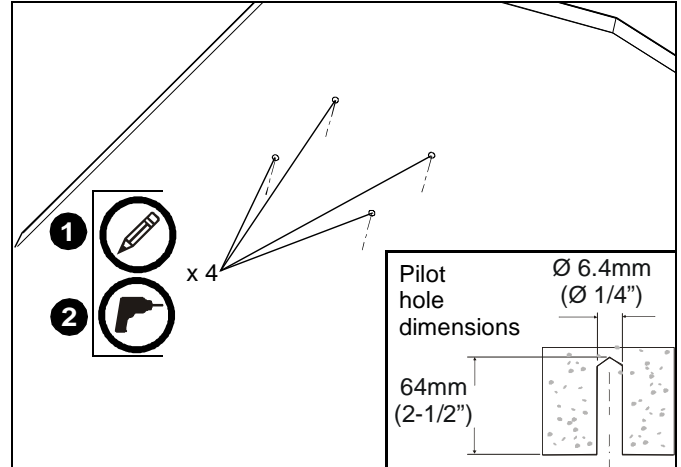

Figure 8
- Drill four 1/4" (6.4mm) dia. pilot holes to a depth of 2-1/2" (64mm) deep. (See Figure 8)